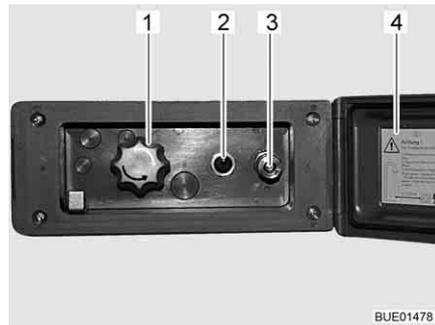

Fig. 87 External shower connection point
- Unlock and open the cover (Fig. 87,4).
- Attach hose of the external shower to the quick closure (Fig. 87,3).
- Switch on the water pump using the switch (Fig. 87,2).
- Adjust the water temperature with the rotary knob (Fig. 87,1) as desired.
- Switch off the water pump using the switch (Fig. 87,2).
- Close the cover (Fig. 87,4) and lock with key.
- Turn knob (Fig. 87,1) to the centre position.